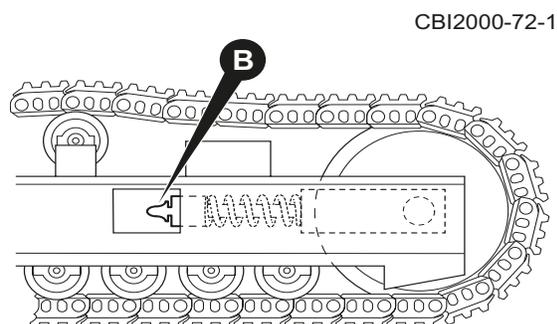

Figure 6.42 - Adjust Track Tension
3. Add Tension (If Required) - To increase track tension (decrease sag), pump grease into the button head grease zerk inside the track frame (Figure 6.42 / B). Using a standard grease gun will require the Terex button head adaptor (part number: 50010945).
4. Release Tension (If Required) - To decrease track tension (increase sag), remove grease from the cylinder. Slowly loosen the button head zerk inside the track frame until grease starts seeping out (Figure 6.42 / B). The spring will move the idler back and push the grease out. Retighten the fitting when sufficient tension has been released.